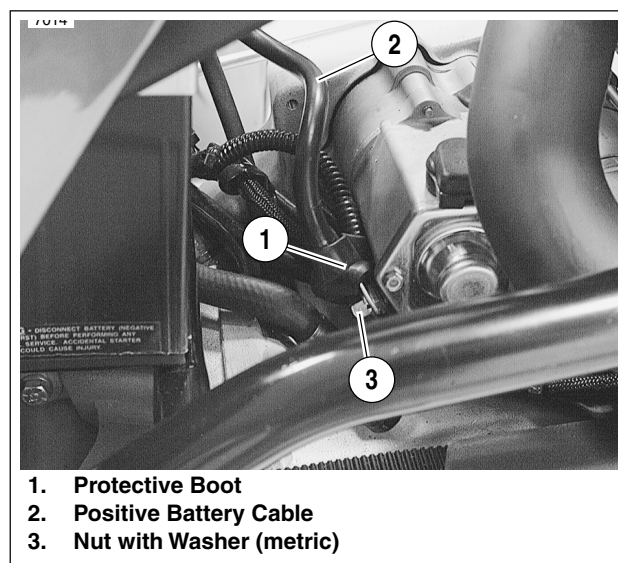

Figure 7-52. Positive Battery Cable
4. See Figure 7-52. Remove protective boot (1) from starter. Remove nut with washer (3) (metric) to detach positive battery cable (2) from starter.
- b. See Figure 7-52. Attach positive battery cable to starter using nut with washer (metric). Tighten to 60-85 in-lbs (7-10 Nm). Install protective boot (1).